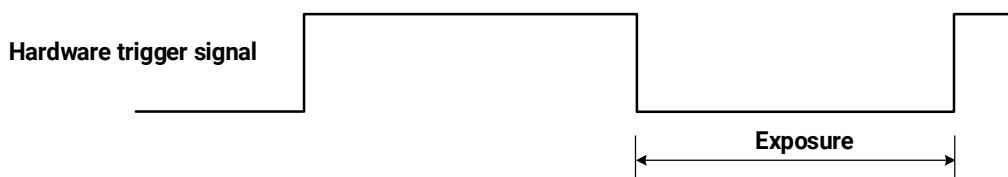

Figure 8-30 The sequence diagram in falling edge trigger of TriggerWidth exposure mode
- If falling edge triggering is enabled, exposure starts when the trigger signal falls and continues until the trigger signal rises, as shown in Figure 8-30